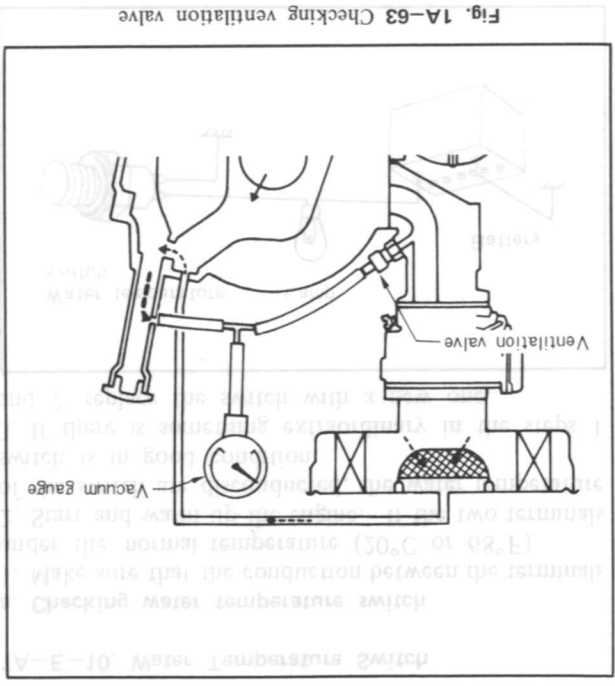

Fig. 1A-61 Checking choke switch (1)
2. Install a vacuum gauge as shown in Fig. 1A-64.